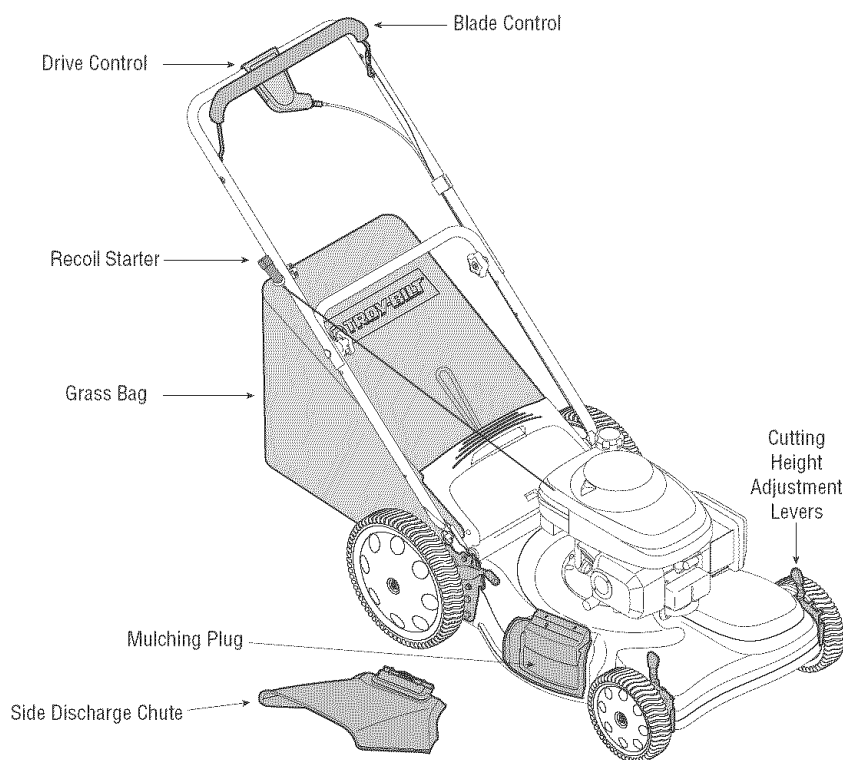

Figure 1
The drive control is located on the underside of the upper handle and is used to engage the drive. Squeeze it against the upper handle to engage the drive; release it to slow down or stop mower from propelling. See Figure 1.
1. Check oil level and add oil if necessary. Follow engine manual for this. See Figure 1 above for location of the oil fill.
2. Service the engine with gasoline as instructed in the engine manual. See Figure 1 above for location of gas fill.